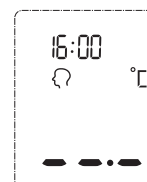

Figure 1
3. After self-checking, Figure 1 appears on the display screen with beeps, so you can start a new measurement.